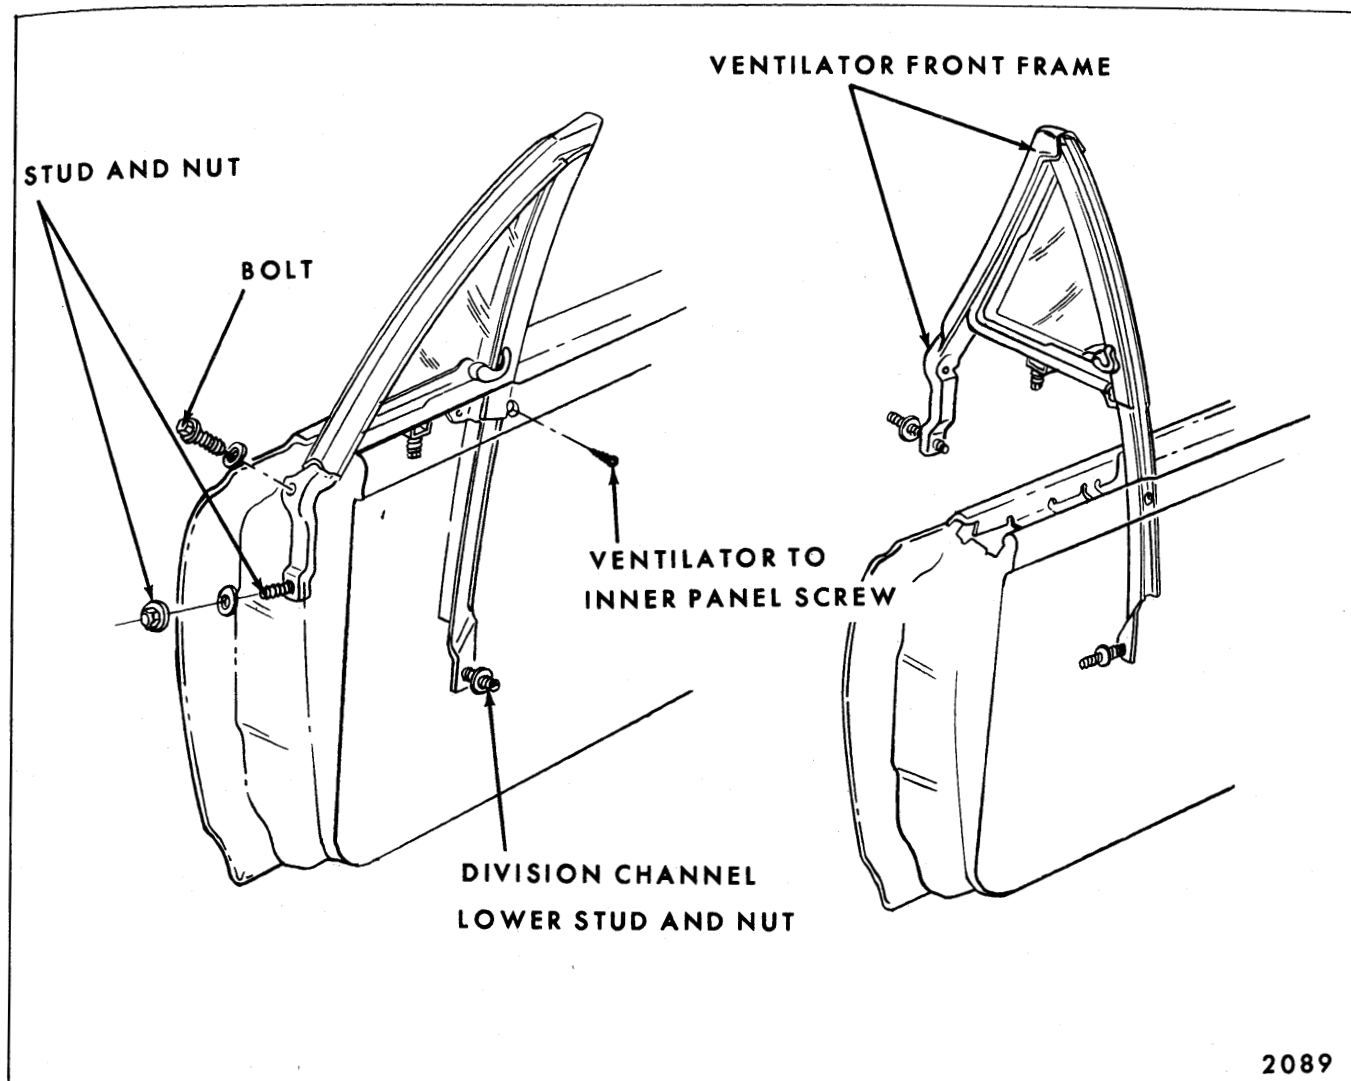

Fig. 7-71—Front Door Ventilator Removal - "A" Style Shown - "X & Z" Similar
3. Remove ventilator division channel lower adjusting stud nut and ventilator to door inner panel attaching screw(s) (See Fig. 7-71).
| <p>5. On "X" Body Styles, remove front door ventilator casting.</p> <p>6. On "A & Z" Body Styles, on door hinge pillar, remove ventilator frame lower attaching bolt, ventilator front frame attaching screw(s) and ventilator frame lower adjusting stud nut (see Fig. 7-71).</p> | <p>7. On "Z" Body Styles, loosen rear glass run channel upper attaching screw and remove run channel lower adjusting stud nut. Move door glass as far rearward as possible.</p> <p>8. Push ventilator lower adjusting stud free of inner panel and rotate top edge of ventilator rearward until front frame clears hinge pillar (see Fig. 7-71).</p> |
9. Turn ventilator 90 degrees, as shown in Figure 7-71, and remove assembly from body.